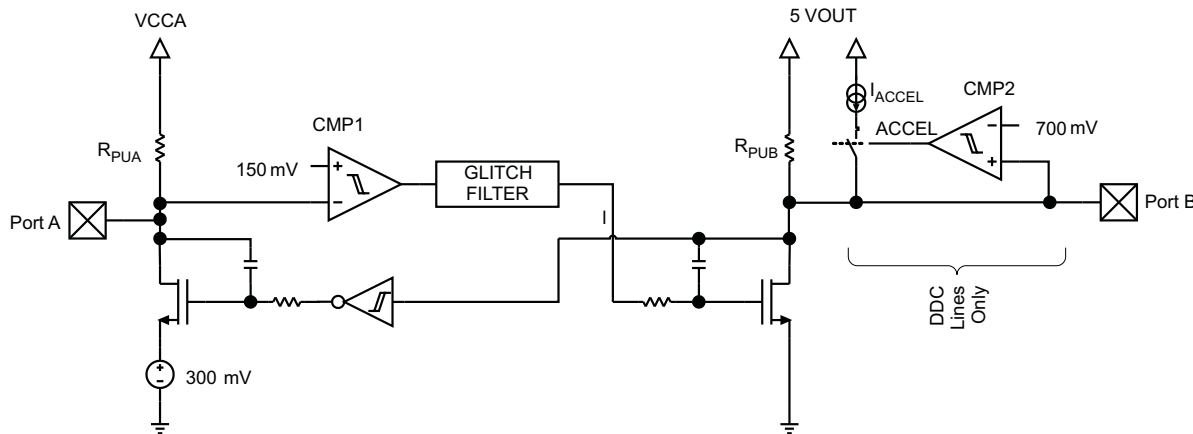

Figure 13. DDC/CEC Level Shifter Block Diagram
- The threshold of CMP1 (see Figure 13) is approximately 150 mV $\pm$ the 40 mV of total hysteresis.